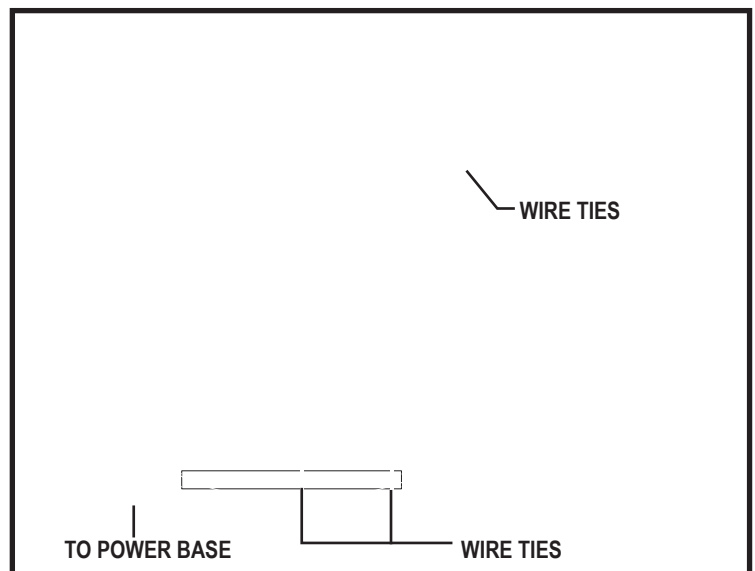

Figure 11. Controller Harness Routing on a Contour Seat
6. Secure the controller harness to the armrest receiver with wire ties. See figure 11.
7. Secure the controller harness to the armrest receiver with wire ties. See figure 11.